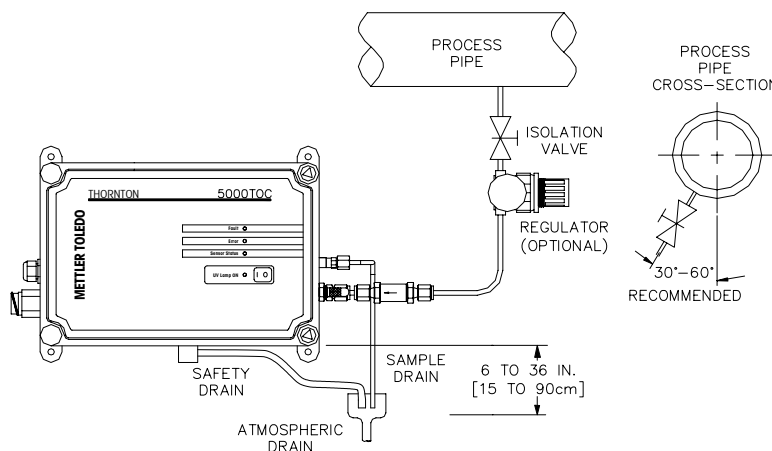

Figure 1 Sample Installation
2. Install the High Pressure Inlet Regulator downstream of the process isolation valve (see Figure 1, Sample Installation).